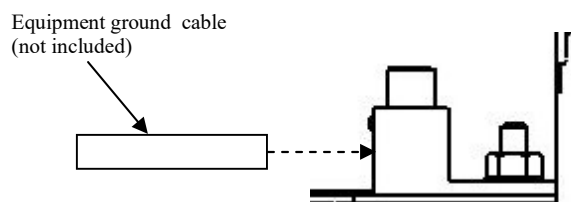

Figure 3 Connecting the Grounding cable using grounding lug
6. Connect equipment ground stud to a grounding point - typically the vehicle's chassis - using recommended wire. See figure 3 for recommended equipment ground connection.